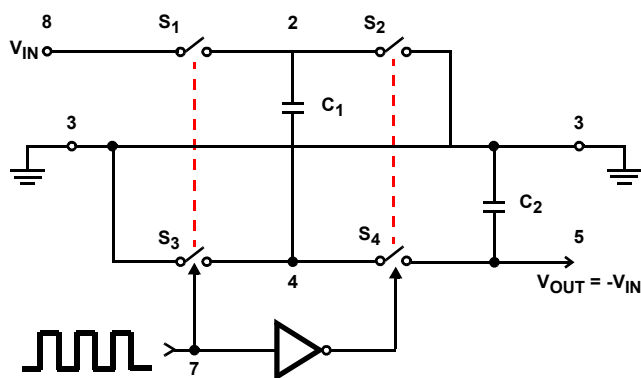
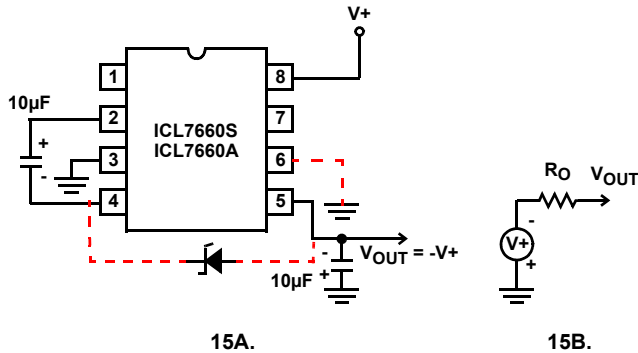
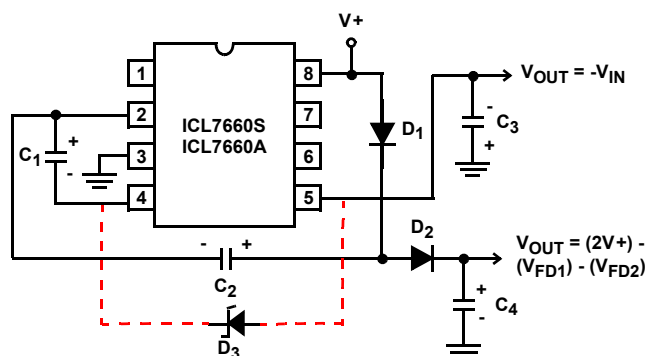
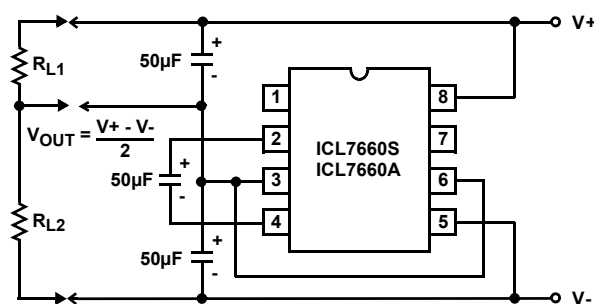

FIGURE 14. IDEALIZED NEGATIVE VOLTAGE CONVERTER
FIGURE 15. SIMPLE NEGATIVE CONVERTER AND ITS OUTPUT EQUIVALENT
FIGURE 19. COMBINED NEGATIVE VOLTAGE CONVERTER AND POSITIVE DOUBLER
FIGURE 20. SPLITTING A SUPPLY IN HALF
The ICL7660S and ICL7660A contain all the necessary circuitry to complete a negative voltage converter, with the exception of two external capacitors, which may be inexpensive 10 $\mu$ F polarized electrolytic types. The mode of operation of the device may best be understood by considering Figure 14, which shows an idealized negative voltage converter. Capacitor  $C_1$  is charged to a voltage,  $V_+$ , for the half cycle, when switches  $S_1$  and  $S_3$  are closed. (Note: Switches  $S_2$  and  $S_4$  are open during this half cycle). During the second half cycle of operation, switches  $S_2$  and  $S_4$  are closed, with  $S_1$  and  $S_3$  open, thereby shifting capacitor  $C_1$  to  $C_2$  such that the voltage on  $C_2$  is exactly  $V_+$ , assuming ideal switches and no load on  $C_2$ . The ICL7660S and ICL7660A approach this ideal situation more closely than existing non-mechanical circuits.
In the ICL7660S and ICL7660A, the four switches of Figure 14 are MOS power switches;  $S_1$  is a P-Channel device; and  $S_2$ ,  $S_3$  and  $S_4$  are N-Channel devices. The main difficulty with this approach is that in integrating the switches, the substrates of  $S_3$  and  $S_4$  must always remain reverse biased with respect to their sources, but not so much as to degrade their "ON" resistances. In addition, at circuit start-up, and under output short circuit conditions ( $V_{OUT} = V_+$ ), the output voltage must be sensed and the substrate bias adjusted accordingly. Failure to accomplish this would result in high power losses and probable device latch-up.
where  $V_1$  and  $V_2$  are the voltages on  $C_1$  during the pump and transfer cycles. If the impedances of  $C_1$  and  $C_2$  are relatively high at the pump frequency (see Figure 14) compared to the value of  $R_L$ , there will be a substantial difference in the voltages,  $V_1$  and  $V_2$ . Therefore it is not only desirable to make  $C_2$  as large as possible to eliminate output voltage ripple, but also to employ a correspondingly large value for  $C_1$  in order to achieve maximum efficiency of operation.
The majority of applications will undoubtedly utilize the ICL7660S and ICL7660A for generation of negative supply voltages. Figure 15 shows typical connections to provide a negative supply where a positive supply of +1.5V to +12V is available. Keep in mind that pin 6 (LV) is tied to the supply negative (GND) for supply voltage below 3.5V.
The output characteristics of the circuit in Figure 15 can be approximated by an ideal voltage source in series with a resistance as shown in Figure 15B. The voltage source has a value of  $-(V_+)$ . The output impedance ( $R_O$ ) is a function of the ON resistance of the internal MOS switches (shown in Figure 14), the switching frequency, the value of  $C_1$  and  $C_2$ , and the ESR (equivalent series resistance) of  $C_1$  and  $C_2$ . A good first order approximation for  $R_O$  is shown in Equation 2:
Figure 19 combines the functions shown in Figure 15 and Figure 18 to provide negative voltage conversion and positive voltage doubling simultaneously. This approach would be suitable, for example, for generating +9V and -5V from an existing +5V supply. In this instance, capacitors  $C_1$  and  $C_3$  perform the pump and reservoir functions, respectively, for negative voltage generation, while capacitors  $C_2$  and  $C_4$  are pump and reservoir, respectively, for the doubled positive voltage. There is a penalty in this configuration which combines both functions, however, in that the source impedances of the generated supplies will be somewhat higher, due to the finite impedance of the common charge pump driver at pin 2 of the device.
The bidirectional characteristics can also be used to split a high supply in half, as shown in Figure 20. The combined load will be evenly shared between the two sides, and a high value resistor to the LV pin ensures start-up. Because the switches share the load in parallel, the output impedance is much lower than in the standard circuits, and higher currents can be drawn from the device. By using this circuit, and then the circuit of Figure 15, +15V can be converted, via +7.5 and -7.5, to a nominal -15V, although with rather high series output resistance ( $\sim 250\Omega$ ).